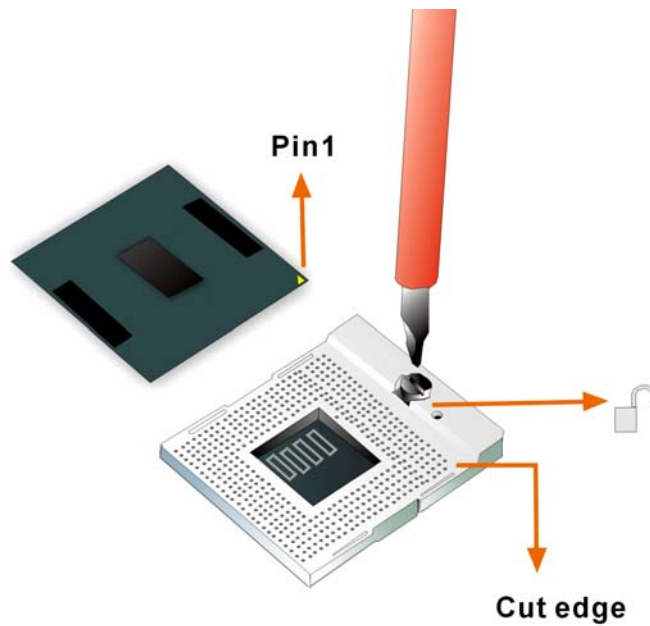

Figure 4-1: Make sure the CPU socket retention screw is unlocked
- Step 1:** **Is the CPU retention screw in an unlocked position?** When shipped, the retention screw of the CPU socket should be in the unlocked position. If it is not in the unlocked position, use a screwdriver to position it in an unlocked position (**Figure 4-1**).